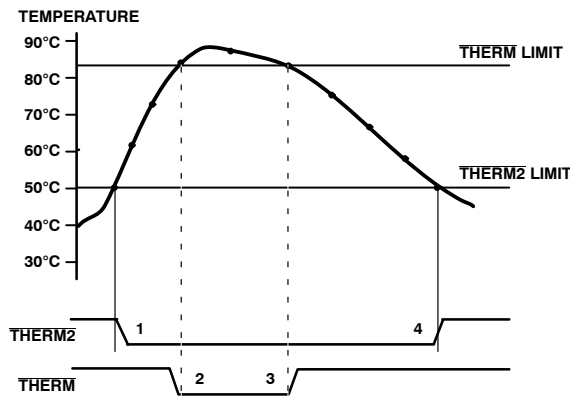

Figure 10. Operation of the $\overline{\text{THERM}}$ and $\overline{\text{THERM2}}$ Interrupts
Figure 10 shows how $\overline{\text{THERM}}$ and $\overline{\text{THERM2}}$ operate together to implement two methods of cooling system. In this example, the $\overline{\text{THERM2}}$ limits are set lower than the $\overline{\text{THERM}}$ limits. The $\overline{\text{THERM2}}$ output is used to turn on a fan. If the temperature continues to rise and exceeds the $\overline{\text{THERM}}$ limits, the $\overline{\text{THERM}}$ output provides additional cooling by throttling the CPU.
- The $\overline{\text{THERM}}$ output deasserts (goes high) when the temperature falls to $\overline{\text{THERM}}$ limit minus hysteresis. In Figure 10, there is no hysteresis value shown.